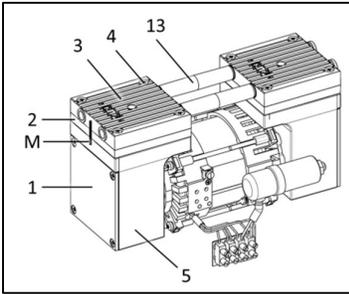

Fig. 31: Two-headed pump (UN 838.1.2 KNI)
1. Mark the position of the head plate (3), intermediate plate (2) and housing (5) relative to each other by a drawing line with a felt-tip marker (M, see Fig. 31). This helps avoid incorrect assembly later.
2. Undo the 4 screws (4) in the head plate (3) and lift the head plate with the intermediate plate off the pump housing.